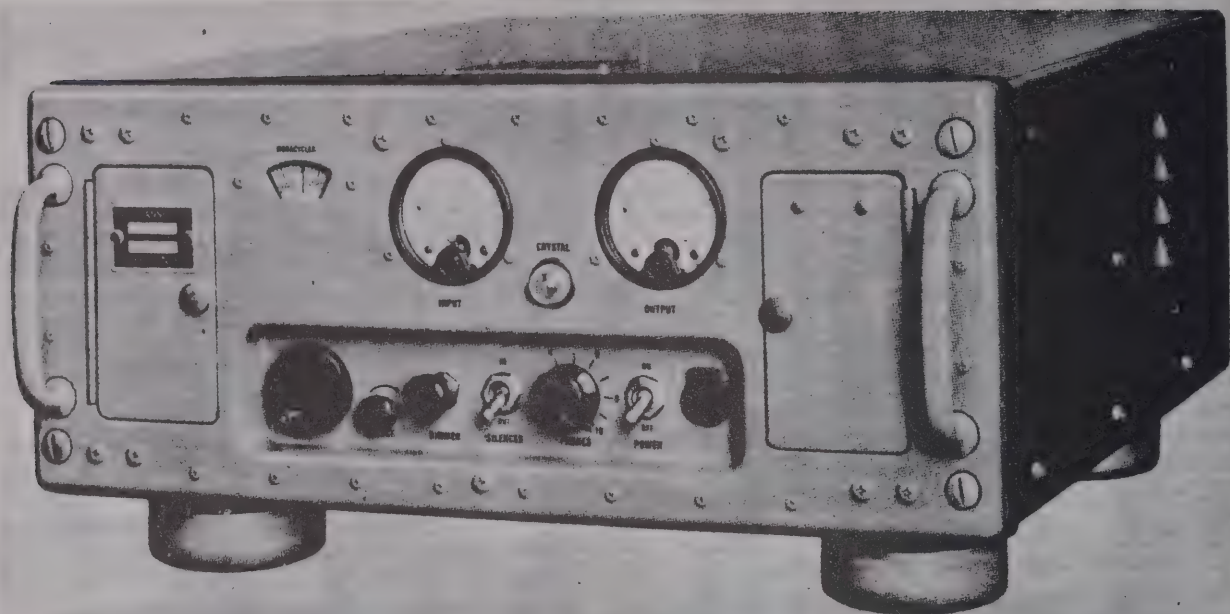

Figure 1-2. Radio Receiver R-482/URR-35, Front View
All primary operating controls and the meters are mounted on the front panel; see figure 1-2. The crystal, the fuses and those controls which require only periodic change for operational adjustments are in panel compartments accessible through hinged doors. Trimmer adjustment controls are readily accessible when the chassis assembly is removed from the cabinet. Trimmer adjustments in the r-f amplifier and oscillator-multiplier sections are accessible through holes located in the casting walls and in the top cover shields of the
a. CABINET.—The receiver cabinet is fabricated from an aluminum alloy and finished in a gray enamel; see figures 1-2 and 1-3. Guide rails, located on the bottom of the cabinet, permit easy withdrawal of the panel-and-chassis assembly. When installed in a standard relay rack, the angle brackets used for mounting it are attached to the sides of the cabinet and the four shockmounts are removed. When the cabinet is arranged for table mounting, these brackets are detached and four shockmounts are bolted to the bottom of the cabinet in their stead. Ventilation is provided, through dust filters and louvers on either side of the cabinet, by means of an internal blower.